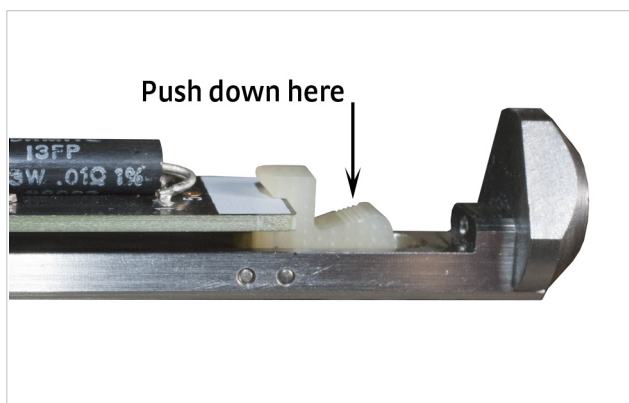

FIGURE 4-18 Left: Push down on the sample card retainer to release the sample card; Right: Proper handling to remove the sample card
7. To remove the sample card, release the sample card retainer at the end of the sample holder by pushing it down with your thumb or forefinger (FIGURE 4-18).
8. Hold onto the edges of the sample card and the center of the standard insert. Pull on the card firmly to release it from the standard insert (FIGURE 4-18).
2. Grasp the bottom of the standard insert and the card, and push the card in until the two engage fully (FIGURE 4-18).